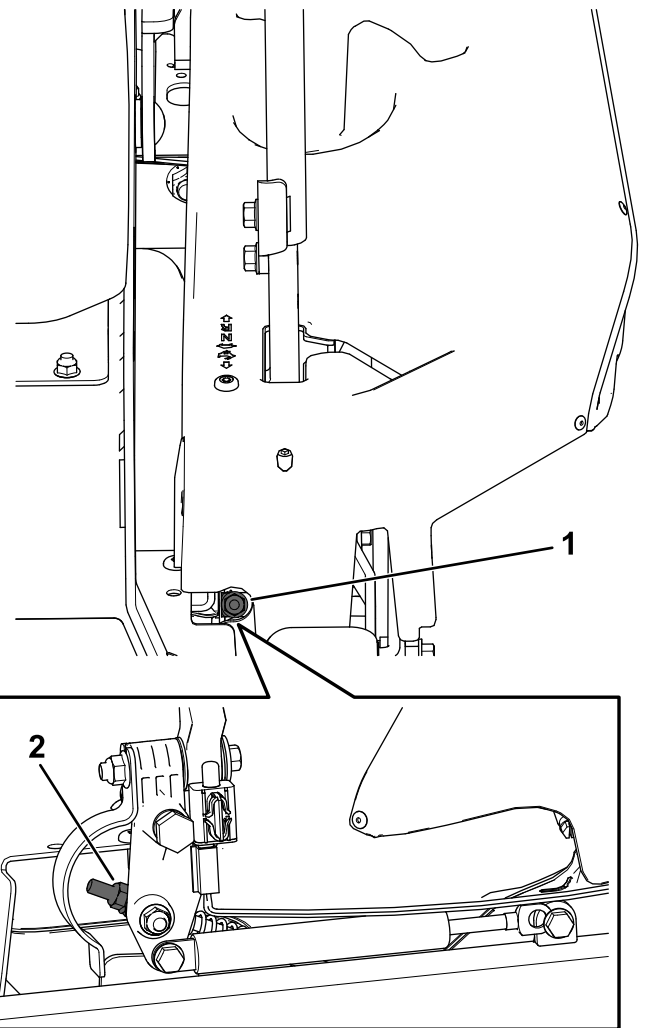

Figure 91
10. Adjust the pump-control-rod lengths by rotating the nut in the appropriate direction until the wheels slightly creep in reverse (Figure 91).